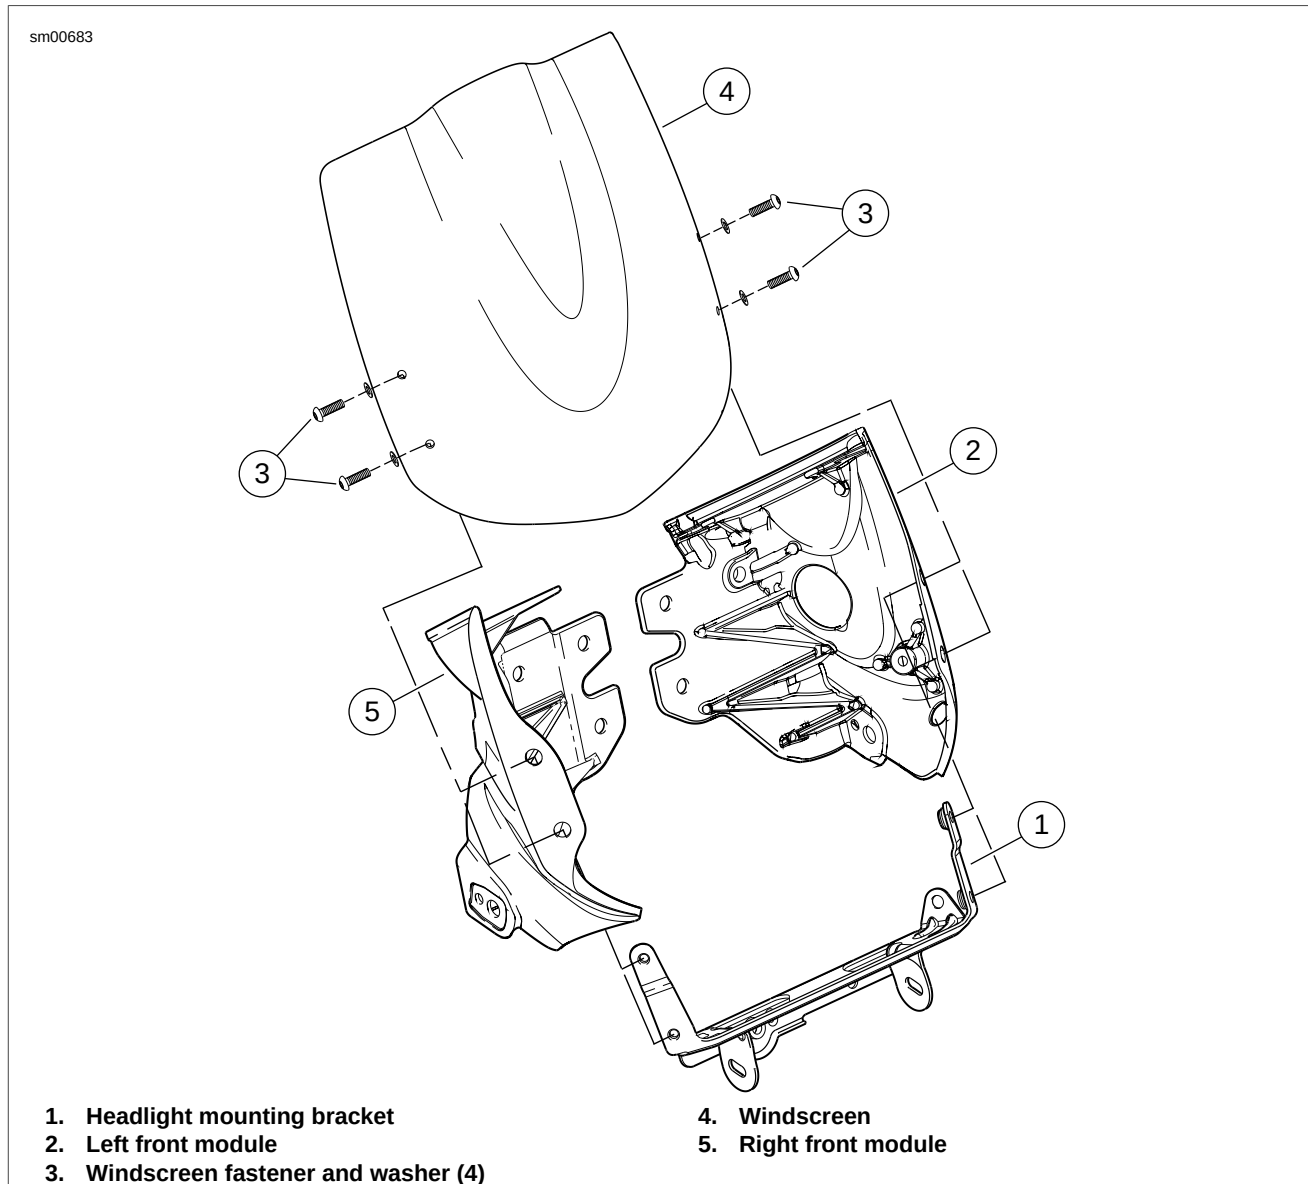

Figure 2-182. Front Windscreen: Lightning
See Figure 2-182. The windscreen fasteners (3) extend through the left and right front modules (2, 5) and thread into the headlight mounting bracket (1).
1. Remove four windscreen fasteners and washers (3).
2. Remove windscreen (4).
1. See Figure 2-182. Position windscreen (4) onto left and right front modules (2, 5).
2. Install four fasteners (3) and tighten to 10-12 **in-lbs** (1.1-1.4 Nm).